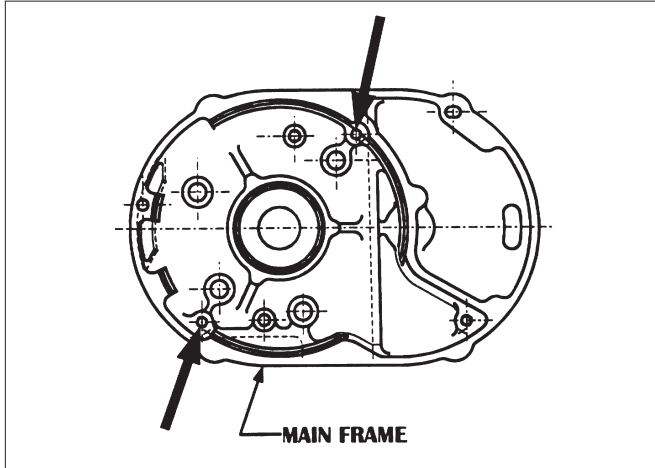
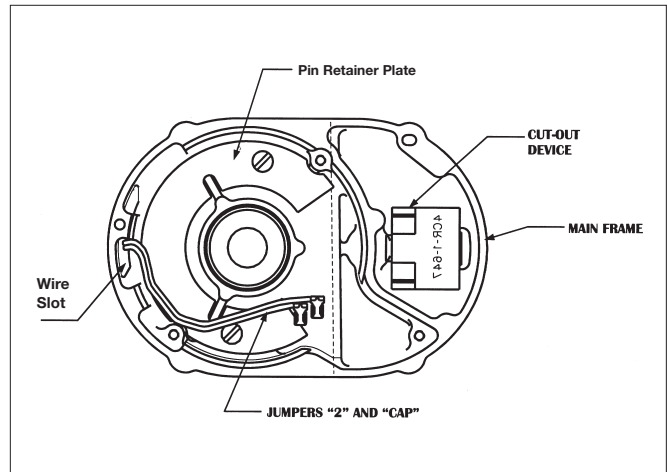

Figure 17 - Main Frame
Figure 18 - Stator Installation
9. To install the stator, (Refer to Figure 17) and make sure that the pin retainer plate has been assembled to the main frame. On single phase units slide jumpers "2" and "CAP" through the wire slot in the main frame. Route these wires around the rotor bearing boss in the main frame as shown in Figure 18. Attach the brown and blue stator leads and "2" jumper to cut-out device (refer to wiring diagram). Slide the cut-out device into the cavity as shown. Push the cut-out device down until it sets on the main frame. Place the capacitor on top of the cut-out device and attach "CAP" jumper and the yellow stator lead to it. Re-route jumpers "2" and "CAP", if necessary to make sure they clear the rotor bearing boss as shown in Figure 18. On all units slide stator leads through wire slot. Align the slots in the stator shell with the threaded holes in the main frame, as shown in Figure 17. With the leads down, slide the stator into the main frame. Slide the rotor, large bearing first, into stator. Place the rotor thrust washer on top of the exposed rotor bearing and then assemble the motor end cover to the main frame. Using wiring diagram, complete the wiring at the brake end of the unit.